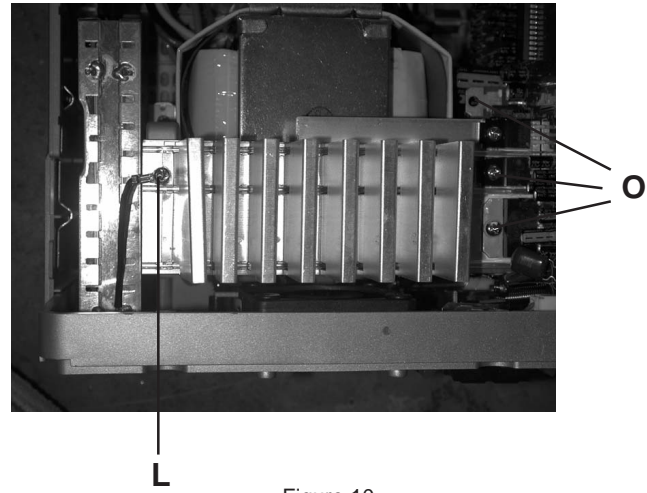

Figure 10
- 2) Loosen 1 screw "L" on the heatsink as shown in Figure 10.
- 6) Loosen 3 screws "O" on the heatsink as shown in Figure 10. Remove the heatsink from the amplify board.